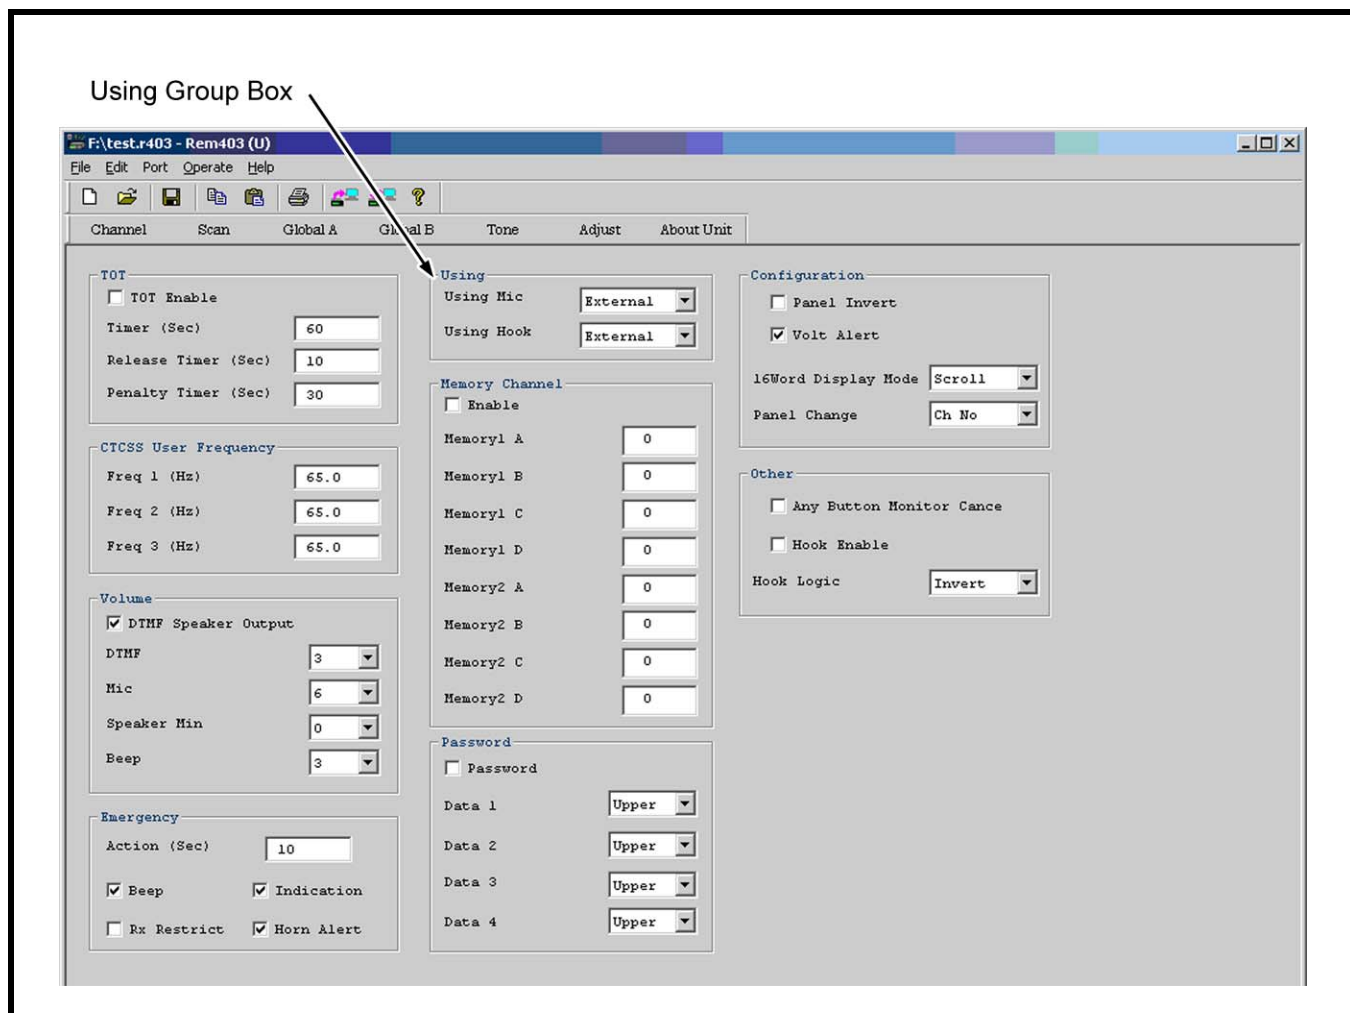

FIGURE 4. Configure the Radio
3. Using Figure 4, configure the **page** for operation.